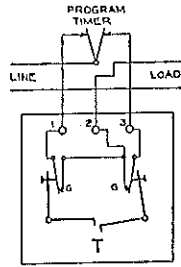

Fig. 6
- (6) Separate operating and holding temperatures for intermittent operations such as those involving pots in which the metal must be kept molten at a fixed temperature for pouring and a holding temperature just above the melting point during standby. This system prevents the metal from freezing and reduces pot cracking. In addition, less fuel and recovery time is required. (See fig. 6 on page 3.)